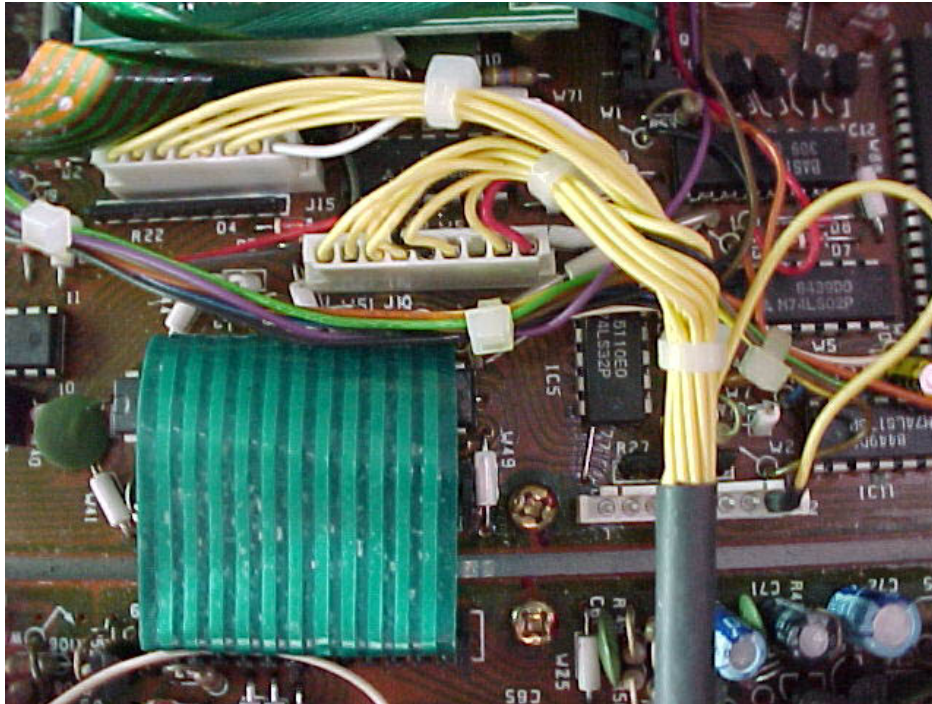

Figure 6.
8. Install the 2 connector on the UX-14PX wiring harness into their mating sockets, J15 and J10, on the IC-751(A) digital board. Even though these connectors are keyed, you should examine figure 6 to determine their correct orientation noticing the different colored wires and their relative positions.